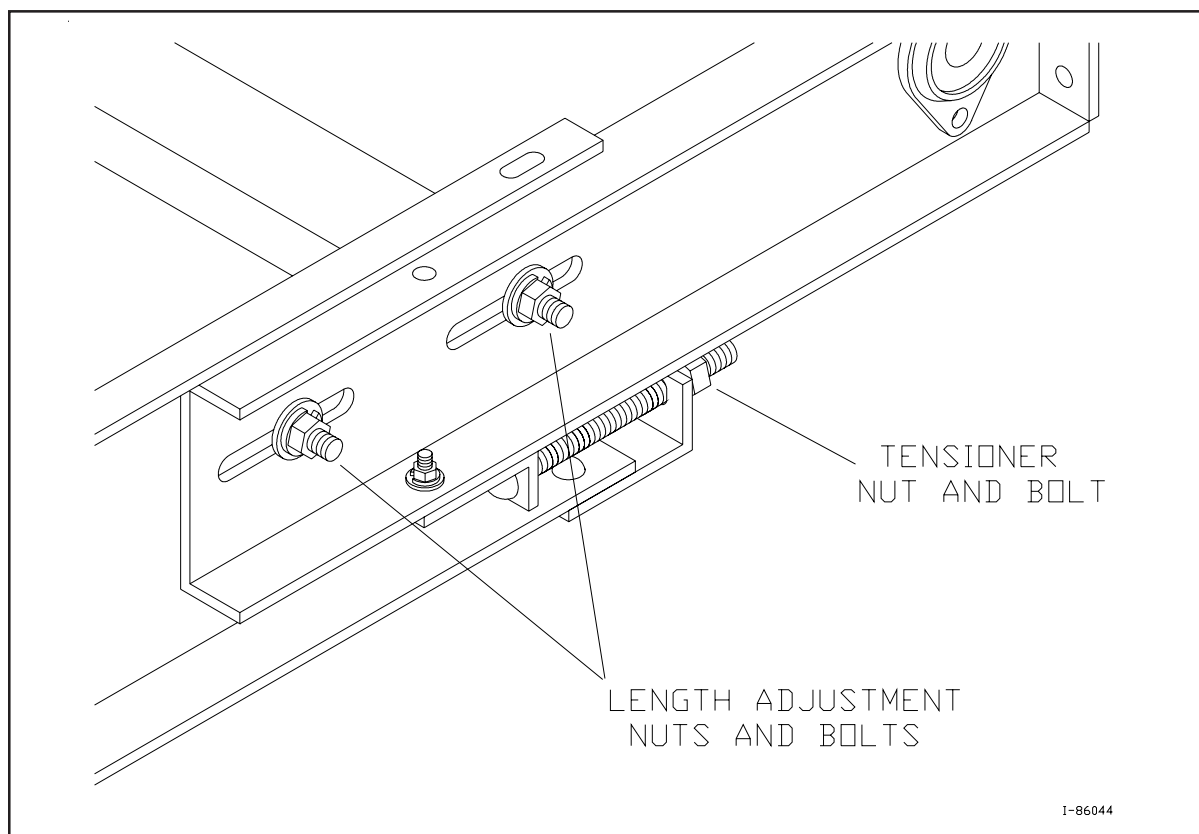

Figure 4B - Cross Conveyor Belt Tension Adjustment
- b) Refer to Figure 4B. Adjust the tensioner bolt to obtain the desired tension.